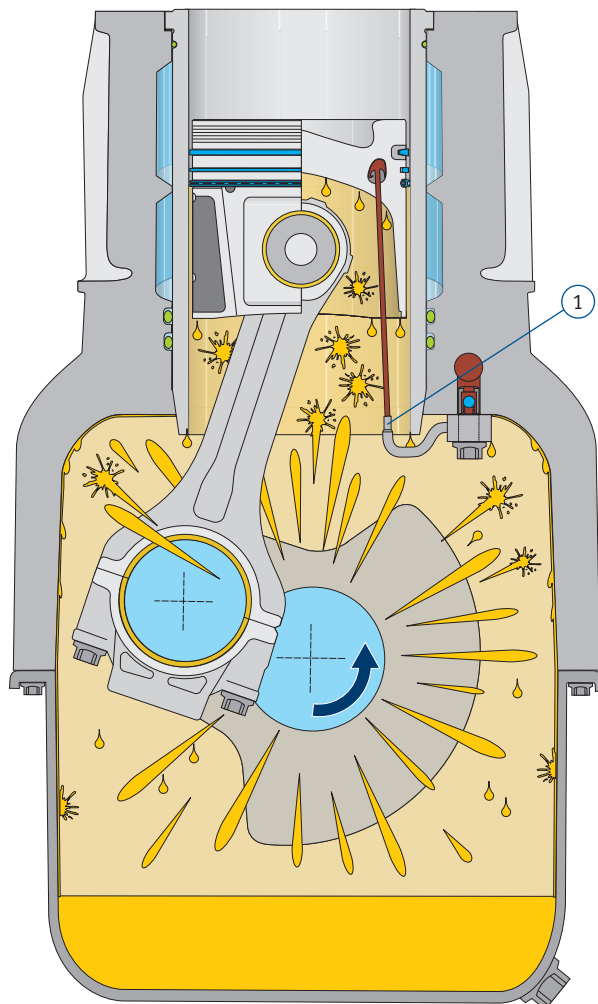

Fig. 2: direct and indirect component lubrication by oil spray and splash oil
Fig. 2 illustrates the engine lubrication situation at medium speed. Thanks to the higher speed level, sufficient oil pressure is available to open the oil spray jet valves and thus supply the piston cooling oil ducts with fresh oil (1). The piston cooling oil dripping back additionally lubricates and cools the gudgeon pins. The cylinder surfaces beneath the pistons are reliably lubricated with a sufficient quantity of splash oil emerging as intended from the anti-friction bearings of the crankshaft.